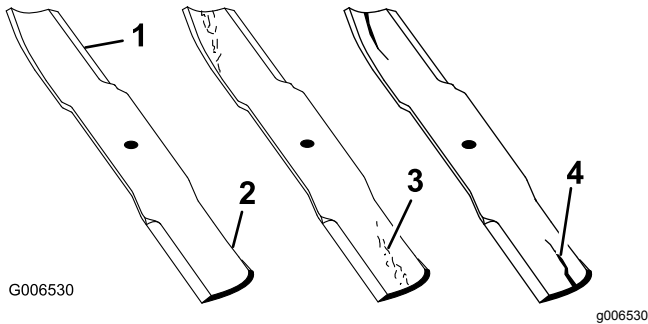

Figure 44
1. Inspect the cutting edges (Figure 44). If the edges are not sharp or have nicks, remove and sharpen the blades; refer to Sharpening the Blades (page 41).
2. Inspect the blades, especially the curved area (Figure 44). If you notice any damage, wear, or a slot forming in this area (item 3 or 4 in Figure 44), immediately install a new blade.